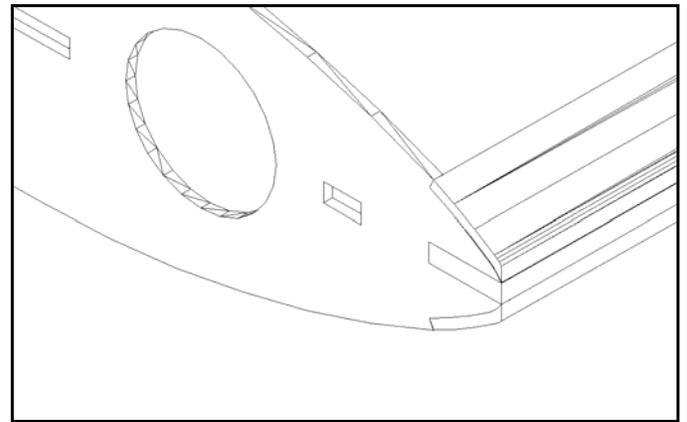
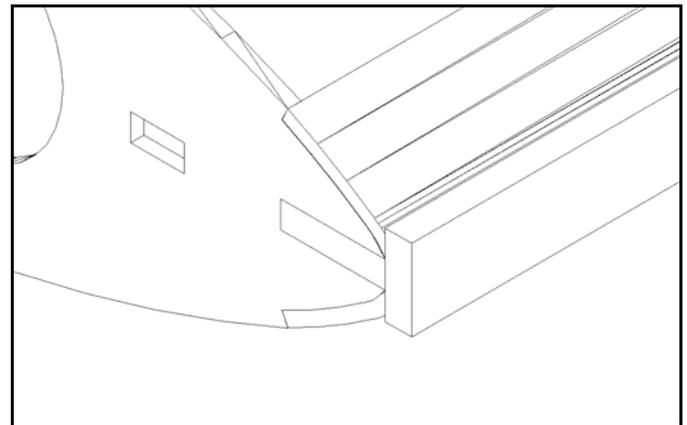

Figure 10
Figure 11
11. Install 9/16" strips on leading edge top and bottom (Fig. 10). Sand square the leading edge so that you have a flat surface flush with Part B2 (Fig. 10) From scrap 1/8" balsa marked "Leading Edge", make two 19" long strips, and glue them to the leading edge. (Fig. 11)